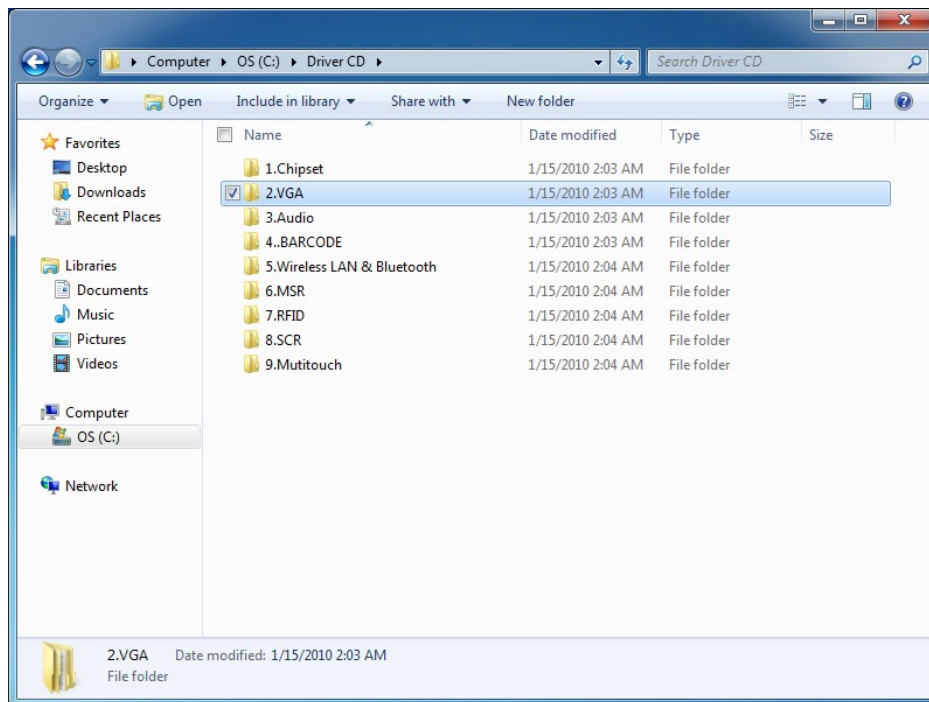

Figure 4-3: Graphics Driver Location
Step 1: Select **2.VGA** from the list of the driver CD shown in Figure 4-3.